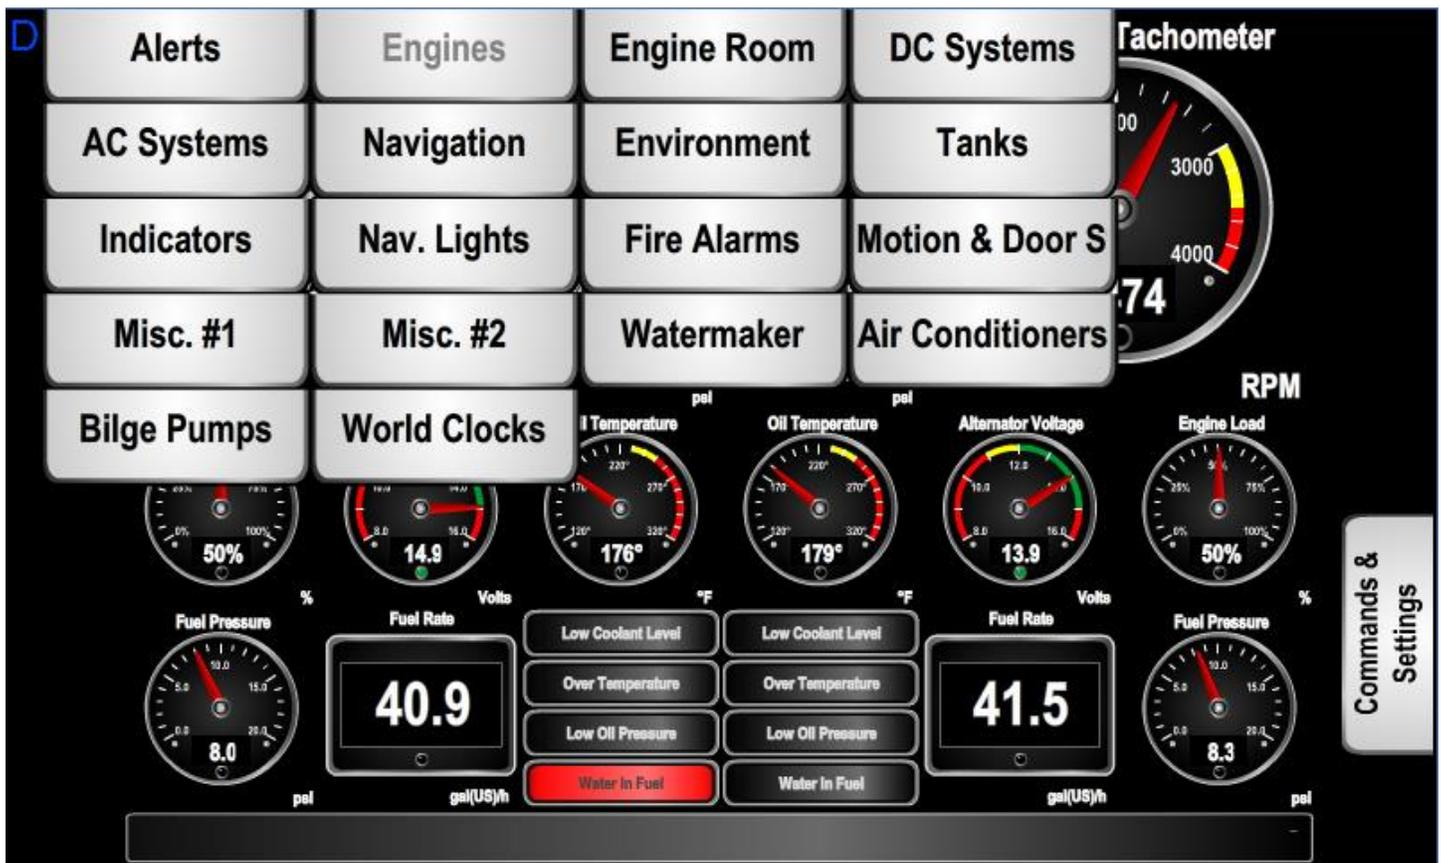

Figure 14 – N2KView® Window with Tabs Displayed
- a. Click anywhere inside the N2KView® screen to display the screen tabs as shown in Figure 14 above.